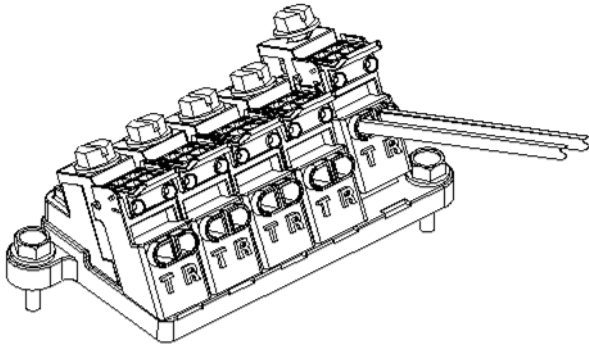

Figure 3
3. Raise driver bolt mechanism to full up position by turning the driver bolt counter-clockwise. Insert wires, confirm wires are fully inserted (Figure 3). Lower driver bolt to the down position by turning clockwise.